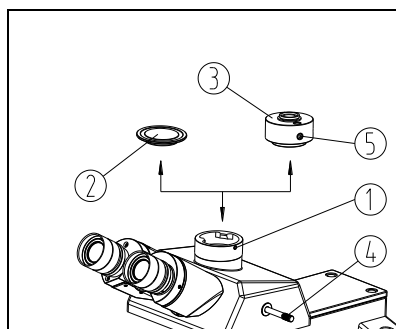

Fig.27
- (1) Loosen the lock screw① of trinocular head, and take out the dust-cover②(See Fig.27).
- (2) Take down the dust-cover of the TV adapter③. Insert the TV adapter into the trinocular head as shown in the figure and screw down the lock screw①.
- (3) Screw CCD or video camera into CTV, make sure it is locking.
- (4) For binocular observation, pull the light path selecting pole④ to the outmost and observe the image. If the image is unclear, rotate the adjustment crew⑤ until it is clear.